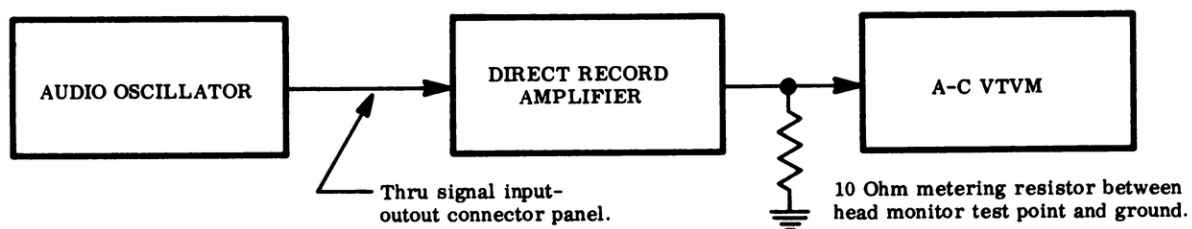

Figure 4-3. Test Set-up, Record Level Adjustment
- Step 1: Connect the test equipment as shown in figure 4-3.